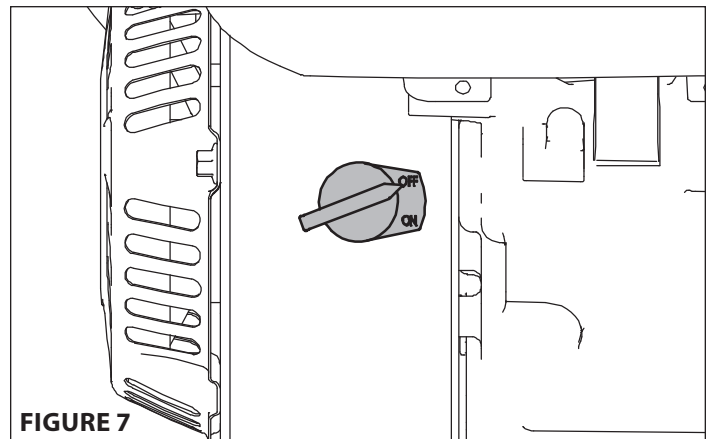

FIGURE 7
2. Turn the On/Off switch to the **OFF** position. **SEE FIGURE 7**